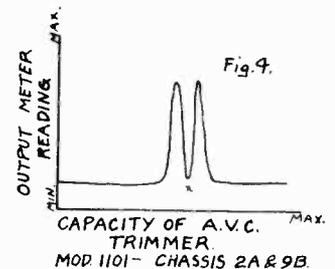

Fig. 4.
- c. Turn the A.V.C. trimmer screw in a clockwise direction to the point of minimum capacity without paying attention to the reading of the output meter. Then gradually turn this screw in a counter-clockwise direction, watching the action of the output meter while increasing the capacity of the trimmer. A graphical picture of the results obtained in this adjustment is given in Figure 4 which shows that as the capacity of the trimmer is increased an output peak will be reached, followed by a dropping off in output to a minimum value. Further increase of the trimmer capacity causes the output to again rise to a peak after which it drops to a low value, which is not affected by further increase of the trimmer capacity. The proper setting of this trimmer is that which gives the minimum out-put between the two high output peaks.